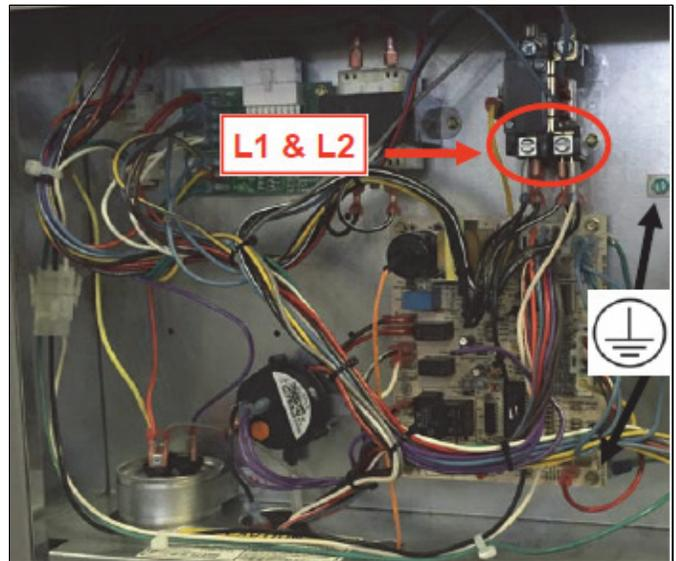

Figure 13. Control Panel Wiring Route
12. Connect wire harness from kit to connector in figure 11 and route wire harness as shown to L1 and L2 terminals (see figure 13). Connect ground wire to either location shown.